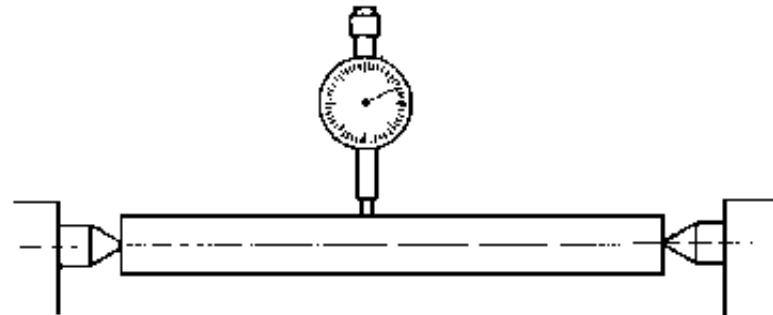

Figure 21 Concentricity check with dial gauge
- Undue radial and axial run-out (concentricity check as per Fig. 21) can be compensated by turning out the chuck jaws.